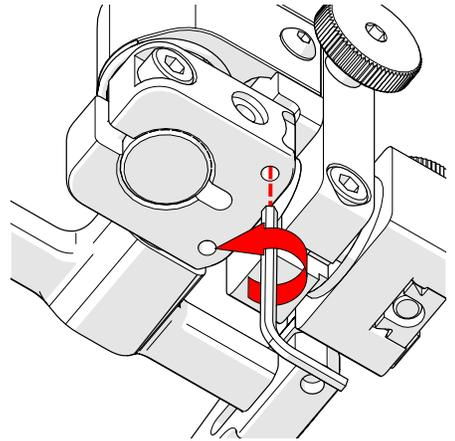

Fig. 144 - Lower 90° stop post
7. Locate the recessed M3 screw on the bottom of the probe holder. Unscrew the stop post using a 1.5 mm hex wrench (Fig. 45) until it has cleared all obstructions. Do not remove stop post (Fig. 144).